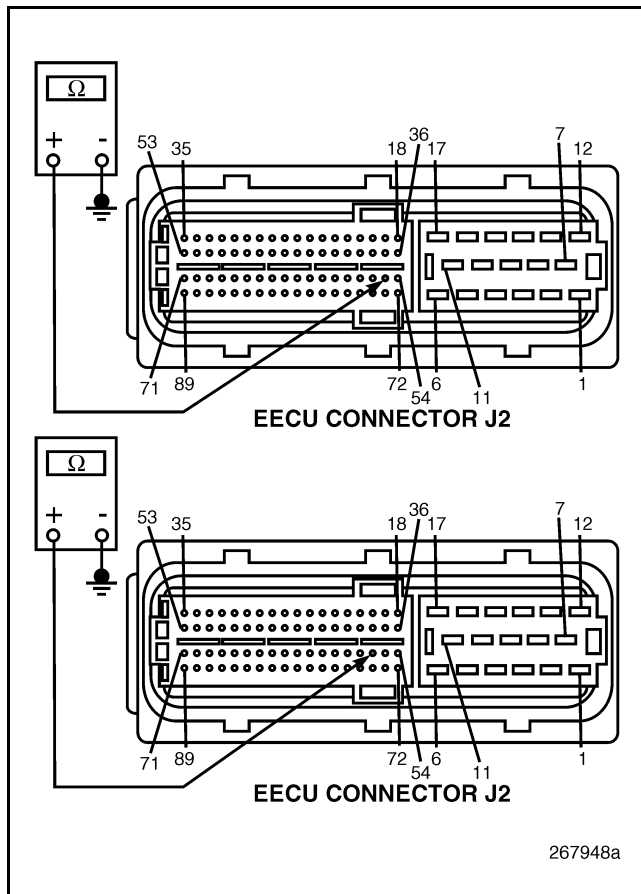

Figure 370
4. Check for continuity between EECU connector J2 pin 56 and a good ground and between EECU connector J2 pin 55 and a good ground (see Figure 370).